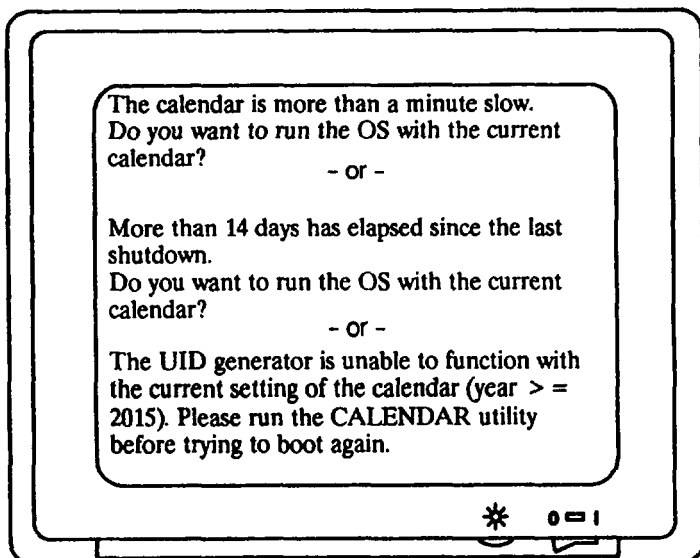

Figure 4-14. Calendar Battery Message
1. Turn on the system unit and the monitor. If the calendar backup battery is not working (incorrectly seated, or dead), you see an incorrect date printed in one of the messages shown in Figure 4-14.